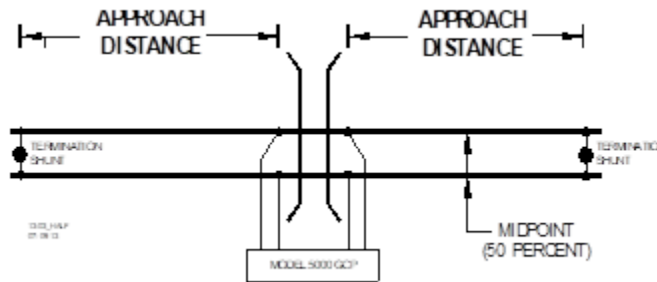

Figure 4: Midpoint Location (See Step 6 below)
Step 31	Transfer the information written in Figure 5 and Figure 6 below onto Figure 1 and Figure 2 of the Model 5000 GCP Application History Card, SIG-00-04-21 and Figure 1 and Figure 2 of the Model 5000 GCP System Cutover Test Procedure and Check Off Sheet, both of which are found at the back of the Model 5000 GCP Family Application Guidelines Manual, SIG-00-13-03. If the initial settings of the GCP were changed or equipment changes were made such that require recalibration of the GCP, Approach, and Linearization, place the updated Computed Distance and Linearization Steps data in Figure 3 and Figure 4 of the History Card.